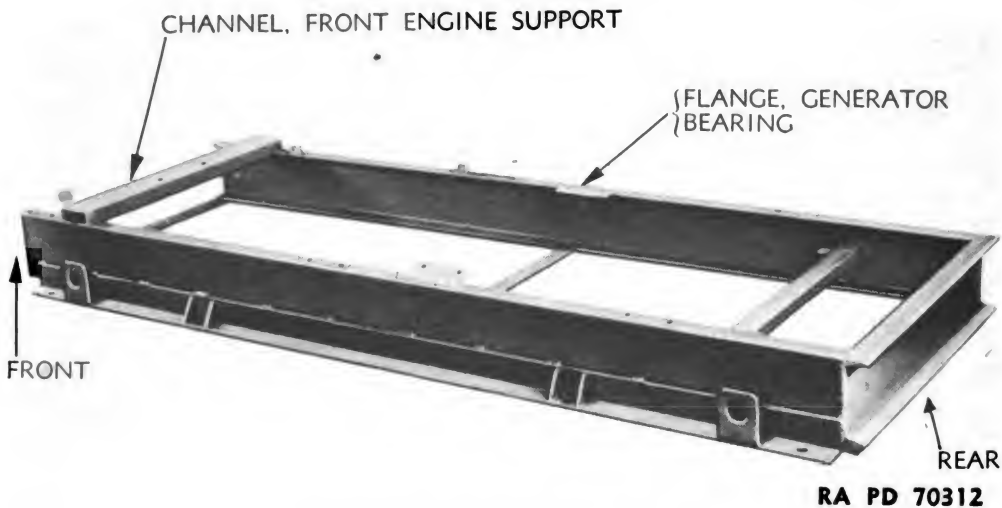

Figure 6 – Frame – Stripped
a. The frame (figs. 6 and 7) is of welded steel construction, and is made up of four side members and six cross members. Centrally located pads braced by gusset plates provide bearing for the alternator. Lifting eyes are welded to the outer angles. Some units depart from the general design in that the generator bearing pads are replaced by a removable squared C-shape strap with pads at each end. This allows a variation in the method of assembling the unit.